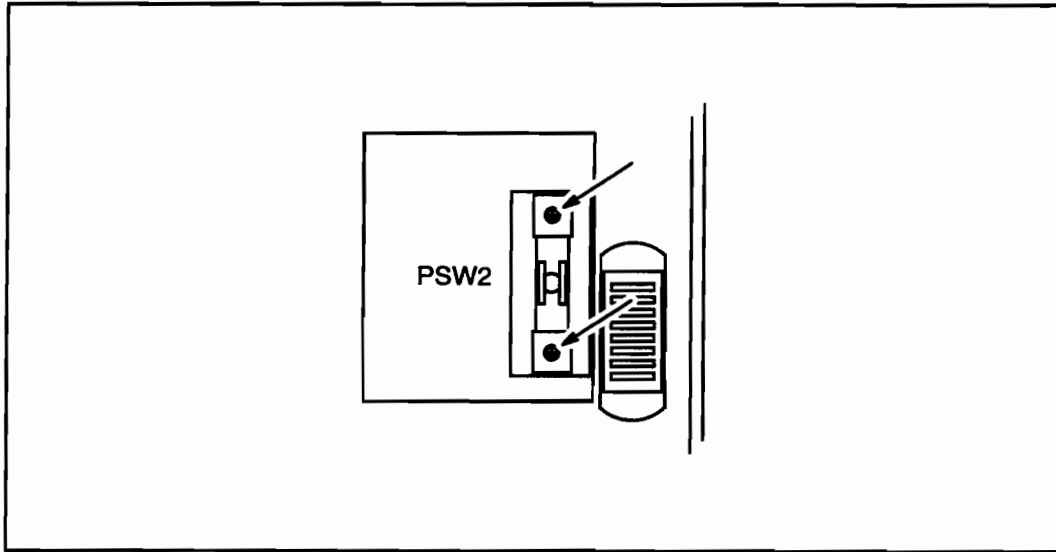

Figure 6-12. Interlock Switch Mounting Screws
1. Switch the plotter OFF (O) and disconnect the ac power cord and interface cable.
3. Using a #2 Phillips screwdriver, remove the two interlock switch mounting screws. See Figure 6-12.